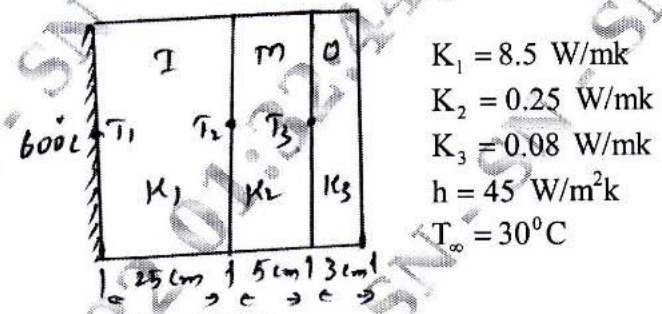

Fig. Q9 (b)
b. An induction furnace wall is made up of three layers, inside, middle and outer layer with thermal conductivity K_1, K_2 and K_3 respectively shown in Fig. Q9 (b). Determine nodal temperature. (10 Marks)